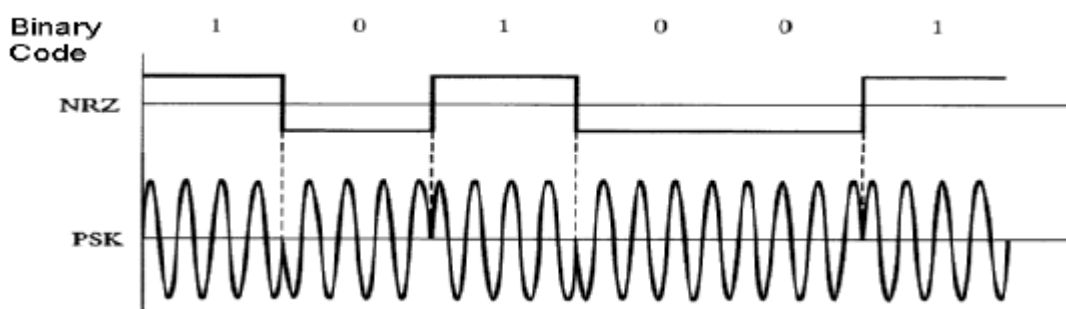

Fig 2. PSK waveforms
7. Observe PSK modulated signal at OUT1 post. Compare it with DATA. It is similar to fig 2 shown above.